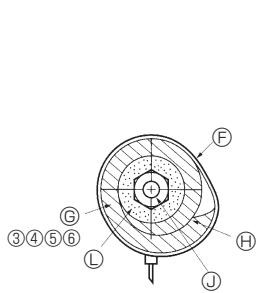
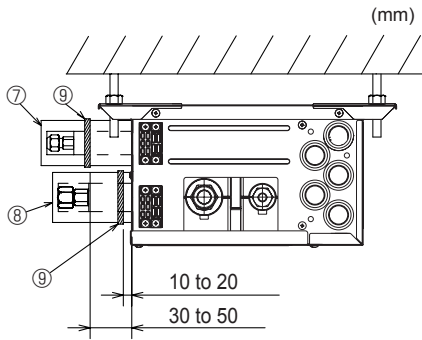

Fig. 7-3
Fig. 7-4
- (3) Connect the refrigerant piping immediately. Always tighten the flared nuts to the torque specified in the table 2 using a torque wrench and double spanner.
- (4) Press the pipe covers ③ and ⑤ on the liquid piping against the unit and wrap to hold in place. (Fig. 7-3)
- (5) Press the pipe covers ④ and ⑥ on the gas piping against the unit and wrap to hold in place. (Fig. 7-3)
- (6) Apply the supplied bands ⑨ at a position 10 - 20 mm from each end of the pipe covers (③④⑤⑥).
- (7) If the indoor unit is not connected, fit the supplied pipe covers (with caps, ⑦ and ⑧) to the branch box refrigerant piping connections against the unit to prevent condensation dripping from the pipes. (Fig. 7-4)
- (8) Clamp the pipe covers (⑦⑧) in place with the supplied bands ⑨.
- Ⓣ Band ⑨
- Ⓢ Pipe covers ③④⑤⑥
► Use the following procedures for indoor connection part which indoor unit is not connected. (Fig. 7-4)
- (1) In order to prevent refrigerant leaks, make sure that the flare nuts are tightened according to the specified torques* in Table 3.
- (2) In order to prevent condensation, install the pipe covers ⑦ ⑧ against the unit and fasten them with the supplied bands ⑨.